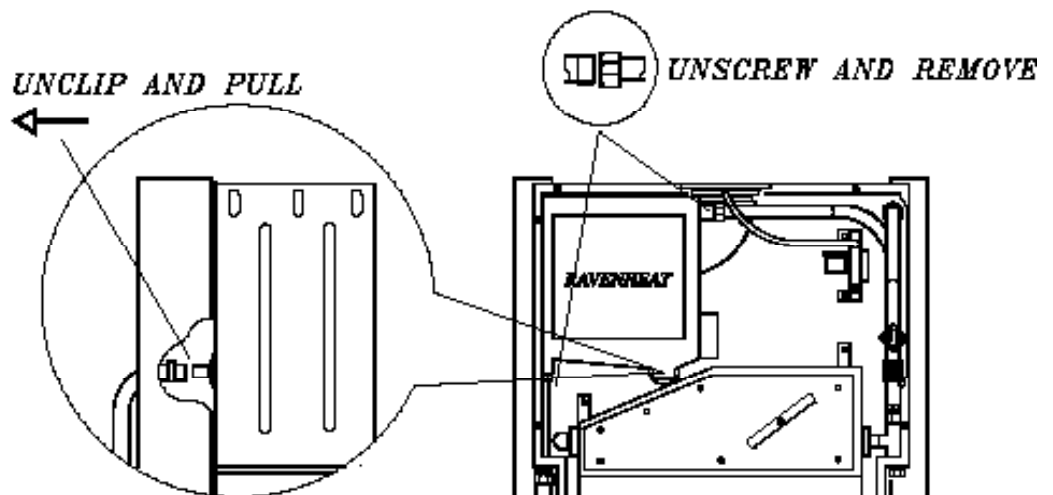

Fig. 55
- 7.6.5.4** Disconnect 2 unions for the heating water pipelines (Fig.55) .
- 7.6.5.5** Disconnect condensing discharge pipe by pulling off the pushfit connector at top rear of boiler (Fig 55)